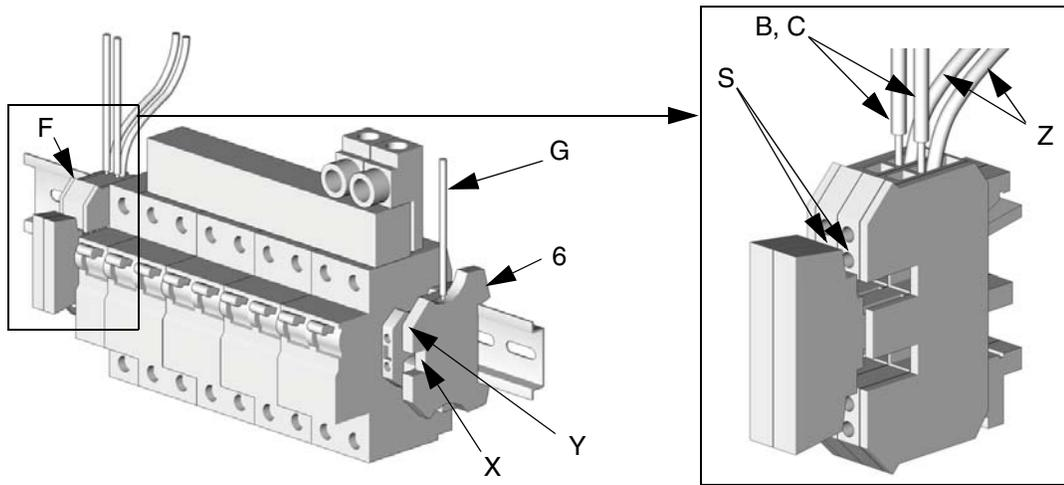
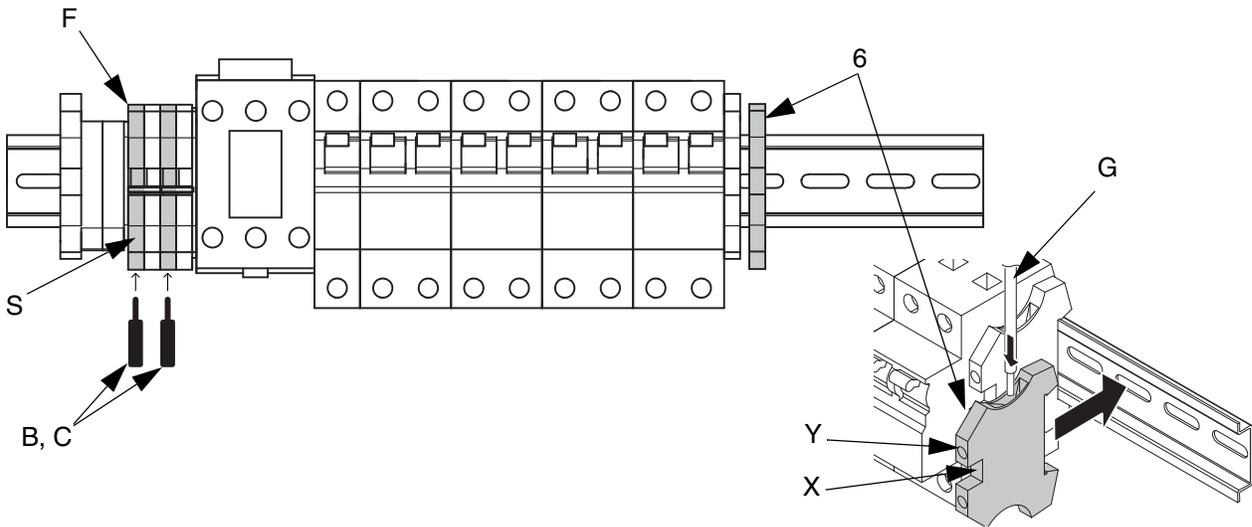
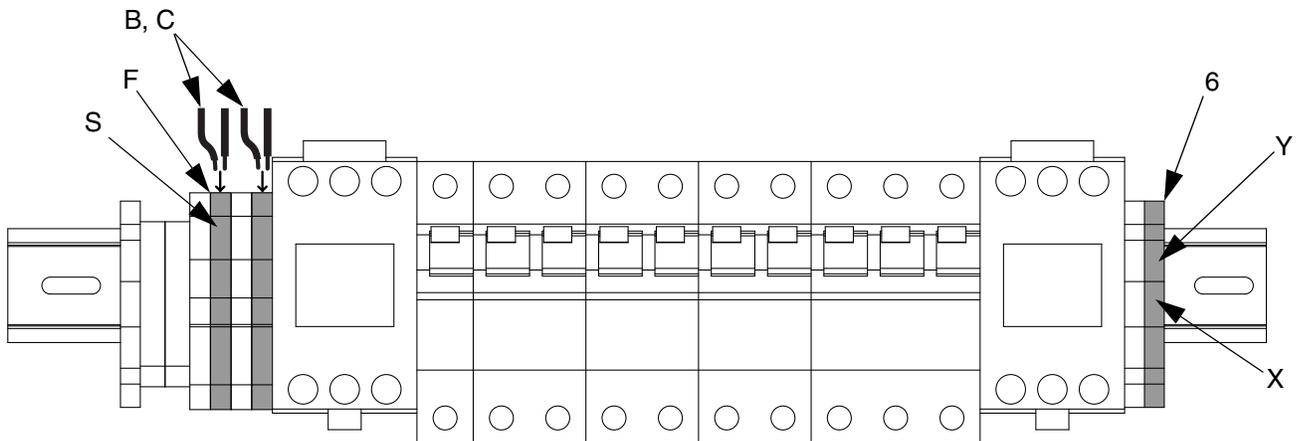

FIG. 1: Electric Reactor DIN Rail Style 1
FIG. 2: Electric Reactor DIN Rail Style 2
FIG. 3: Hydraulic Reactor DIN Rail Style 3
6. Find the DIN rail inside of the Reactor cabinet. See FIG. 1, FIG. 2, or FIG. 3 on page 5.
7. *Electric Reactors only,* see FIG. 1 and FIG. 2 on page 5 to identify whether your system uses style 1 or style 2 of DIN rail.
8. Insert green grounding wire (G) from control box into grounding terminal block (6) supplied with kit, then tighten screw (Y) to secure wire.
9. Install grounding terminal block (6) onto right end of DIN rail then tighten center screw (X) to secure in place. See FIG. 1 for DIN rail style 1 or FIG. 2 for DIN rail style 2.
10. *For electric Reactor DIN rail style 1,* loosen screws (S) then insert black power wires (B, C) into same slots as existing wires (Z) as shown in FIG. 1. Tighten screws (S).
For electric Reactor DIN rail style 2, insert black power wires (B, C) into the bottom of the highlighted terminal blocks (F) shown in FIG. 2. Tighten screws (S).
For hydraulic Reactors, loosen screws (S) then insert black power wires (B, C) into the top of the highlighted terminal blocks (F) shown in FIG. 3. Tighten screws (S).